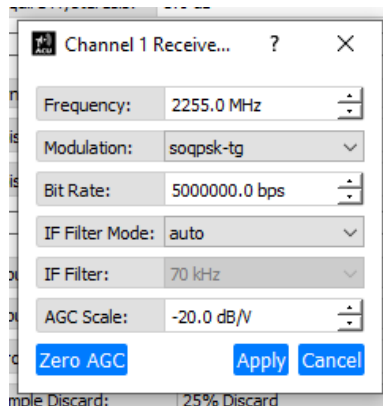

Figure 104: Channel (x) Receiver Settings
- Open RX Control Button – Located on the bottom left of the Channel Settings window; opens Channel (x) Receiver Settings window, shown in Figure 104
The parameter settings shown in Figure 104 are transmitted to the connected Quasonix receiver when the Apply button is selected. All 16 available tracking channels contain this Settings screen, which opens when the Open Rx Control button is selected. Changes made in this screen are displayed in the Quasonix RDMS receiver setup window.